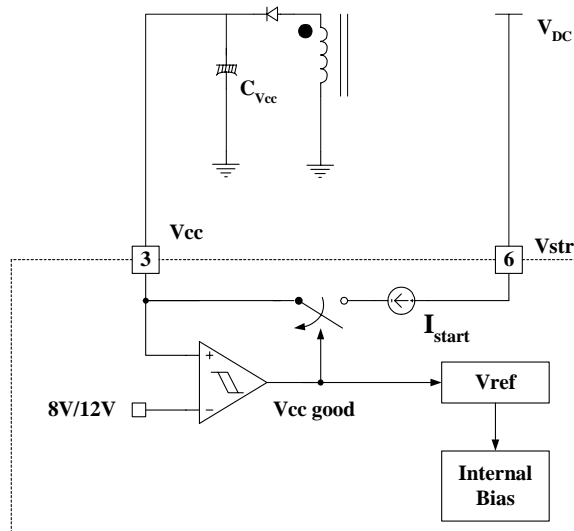

Figure 4. Internal startup circuit
1. Star-up: In previous generations of Fairchild Power Switches (FPS™), the Vcc pin had an external start-up to the DC input voltage line. In the newer switches, the startup resistor is replaced by an internal high voltage current source. At startup, an internal high voltage current source supplies the internal bias and charges the external capacitor (C_{VCC}) that is connected to the Vcc pin as illustrated in Figure 4. When the Vcc pin reaches 12V, the FSDM1265RB begins switching and the internal high voltage current source is disabled. Then, the FSDM1265RB continues its normal switching operation and the power is supplied from the auxiliary transformer winding unless Vcc goes below the stop voltage of 8V.